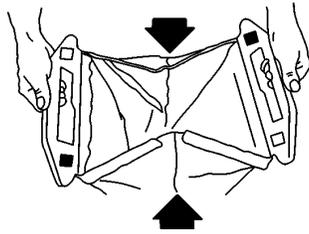

Figure 41
13. Close the rear of the bag by folding the sides in and pressing the interlocking rear handle halves together (Fig. 41).